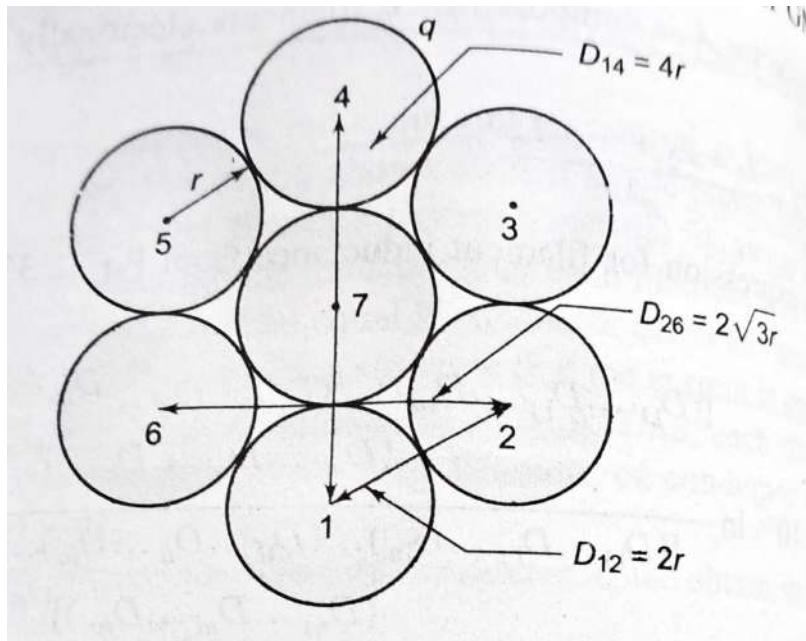

Figure 1: Pertaining to self GMD computation
1. A conductor is composed of seven identical copper strands, each having a radius r as shown in Fig. 1. Find the self GMD of the conductor.